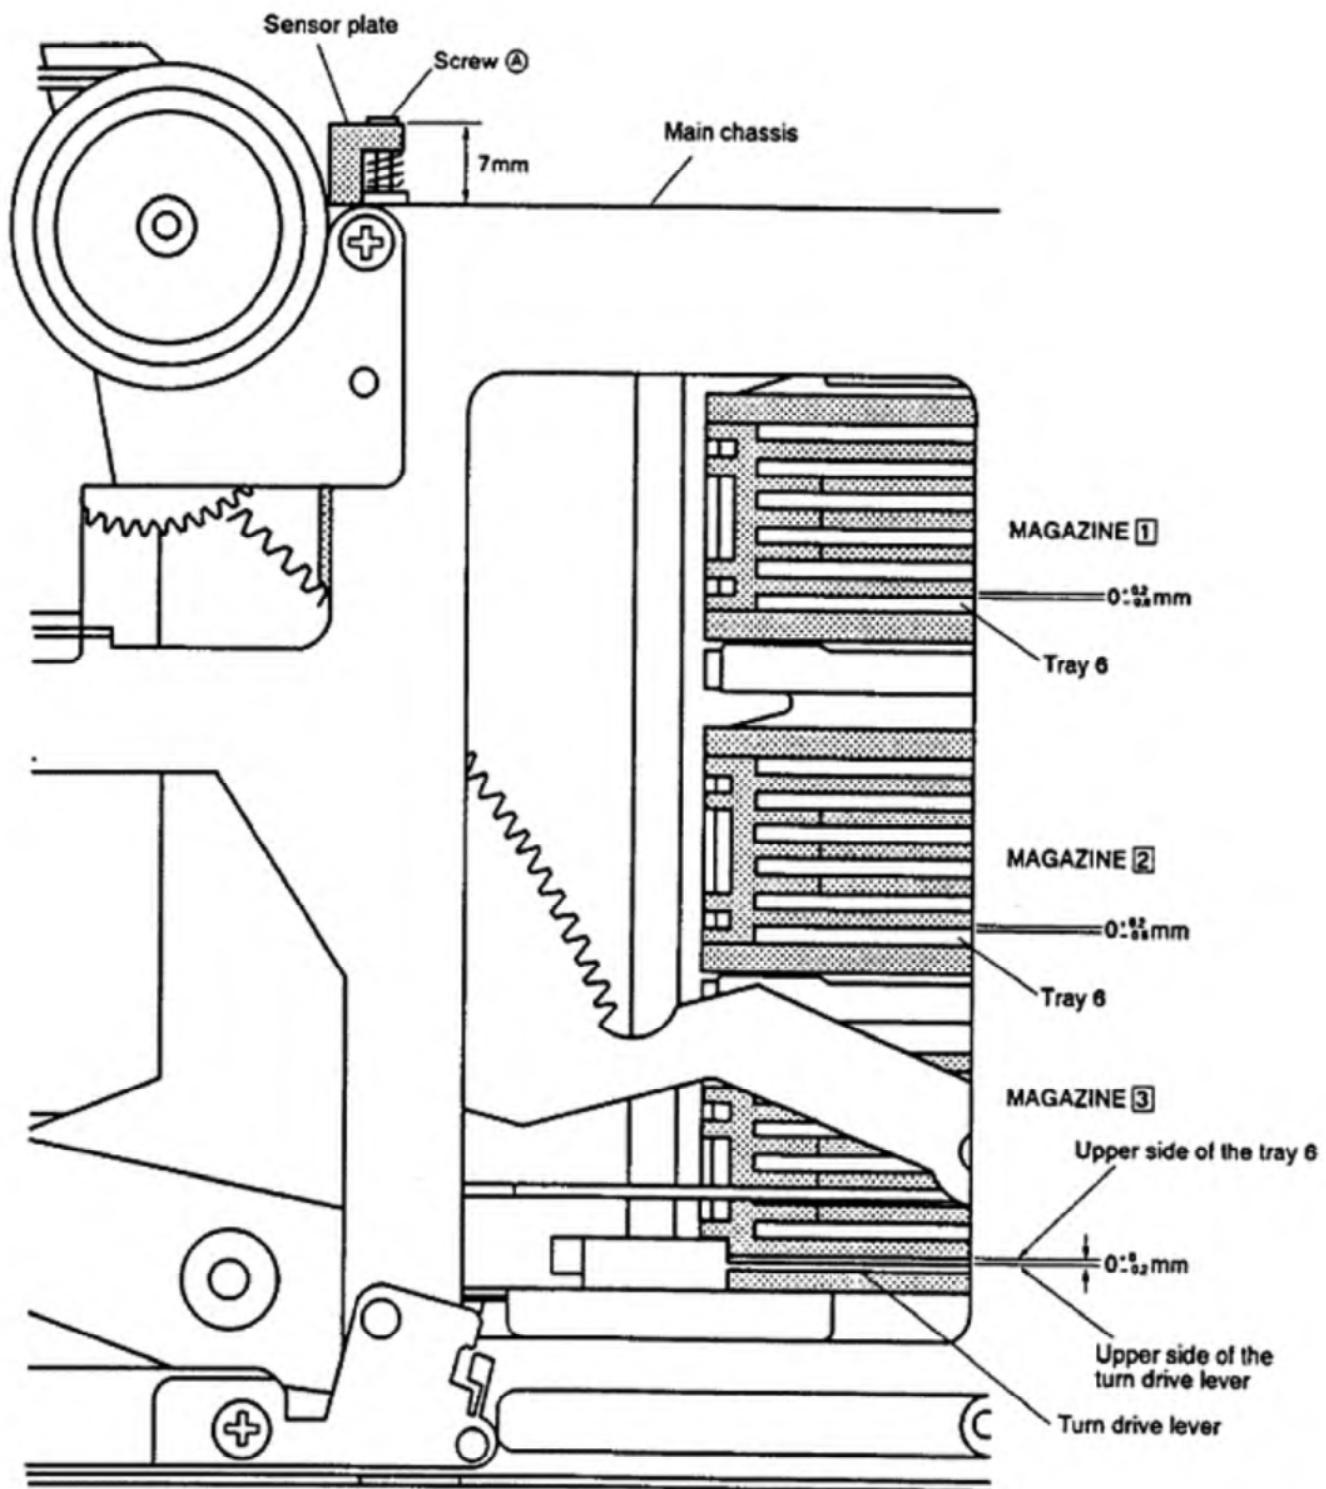

Figure. 7-2
1. Adjust screw \textcircled{A} until the top of the sensor plate is 7mm above the main chassis. (Figure 7-2)
(Figure 7-2, MAGAZINE $\textcircled{3}$)
(Figure 7-2, MAGAZINE $\textcircled{1}$)